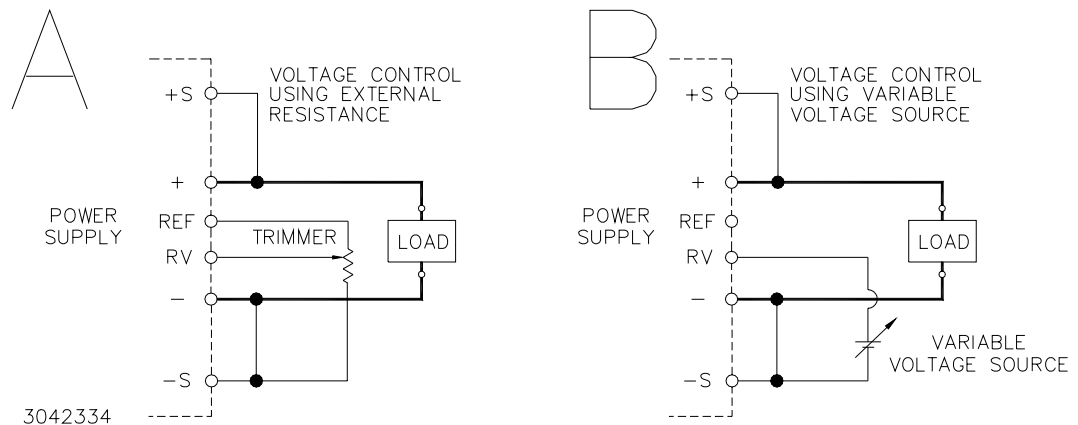

FIGURE 5. CONNECTIONS FOR REMOTE VOLTAGE CONTROL
RESISTANCE. Use a shielded wire, 2m maximum in length, for connection to the trimmer control. Connect the external trimmer as shown in Figure 5 (A). Suggested value for the trimmer control is 5K ohms). With the external trimmer control at its maximum clockwise position, set the output voltage to the desired maximum value by adjusting Vadj clockwise. The value should not be more than 120% of Eo nominal (not more than 110% for the 48-volt model, not more than 3.6V for the 3.3-volt model).
VOLTAGE. By adjusting an external 0-6V voltage source (0-5.5V for the 48-volt model) from minimum to maximum, the maximum output voltage can be adjusted from 0 to 120% (the 48-volt model can be adjusted from 0 to 110%; the 3.3-volt model can be adjusted to 3.6V). Remove the shorting link between the REF and RV terminals. Connect the voltage source across the RV and (-)S terminals as shown in Figure 5 (B).